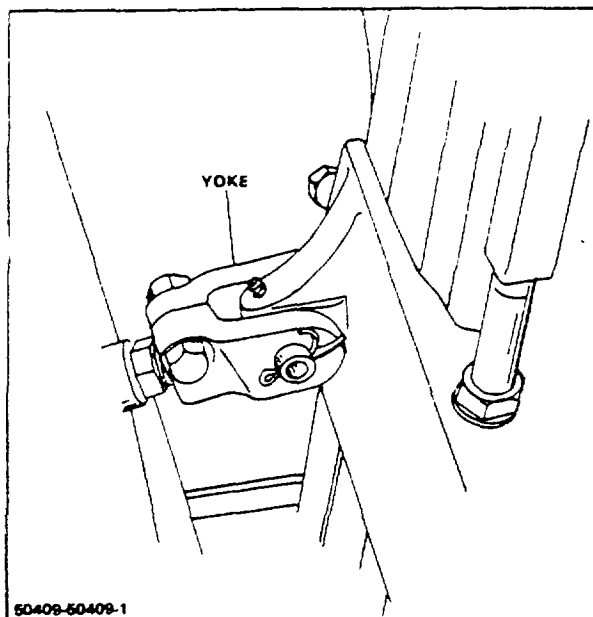

Figure 8-2. Tilt Cylinder Yoke
4. Attach tilt cylinder yokes (Fig 8-2) to mast outer channel tilt pivots by positioning mast with chain hoist.